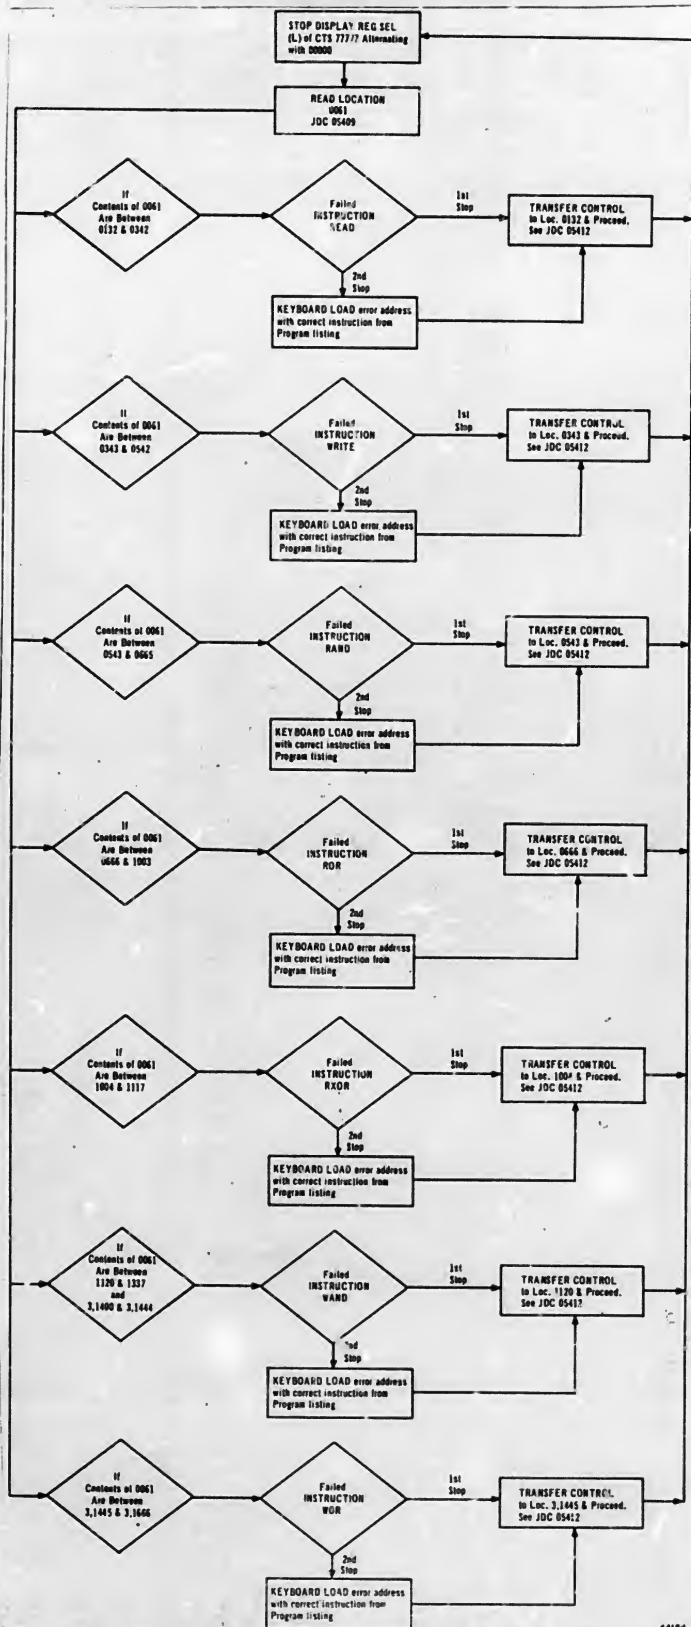

Figure 2. Stop Flowchart
17. Compare the address read out with those specified on Figure 2. The address will be numerically within a specific group on a particular flowgram. For example, an address read out of 0207 would pertain to INSTRUCTION READ the first flowgram of Figure 2. Follow the instructions shown on the selected flowgram, and if the program fails to reach a successfully conclusion discontinue further testing.